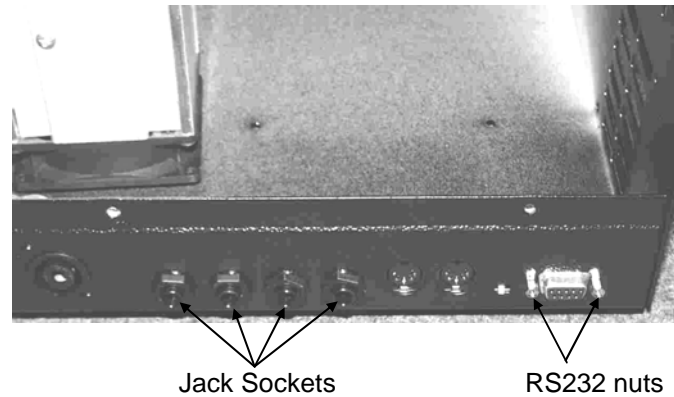

fig.12
- 1) Remove the 4 plastic jack sockets from the rear of the console (see fig.12)
- 2) Remove the 2 RS232 nuts (see fig.12)